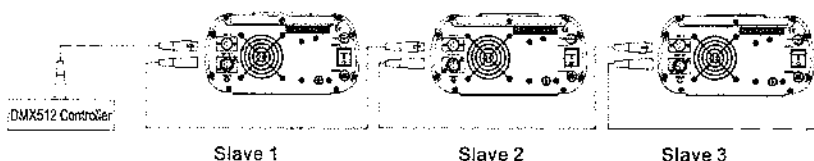

Fig. 4
- ① If you need Master/Slaves change color synchronously, please set all of slaves into "001";
- ② If you need Master/Slaves chase to change color, please set slaves into "006", "011" and so on (add "5" one after another).
3. The connection of DMX Signal Control Mode (See Fig. 4):